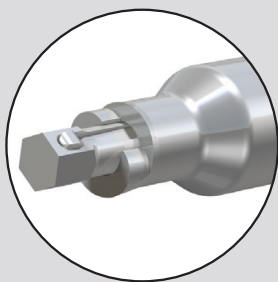

Figure 22
- Insert the Screw Removal Tool into the screw head, being sure to orient the flat surface on the tip of the sleeve with the locking arm of the implant (Figure 22).